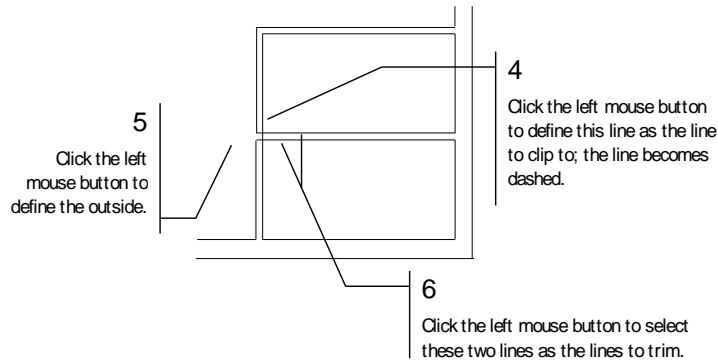

Figure 3.22: Completing a 1-line trim.
4. Click on the inside wall line, shown in Figure 3.22. The line you select becomes dashed. You are prompted to *Point to outside*.